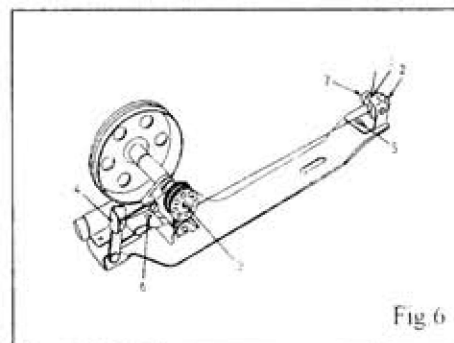

Fig.6
## 5. WINDING (Fig.6)
## 6. WINDING ADJUSTMENT (Fig.6)
2) Adjusting the lift of alternating presser feet: If the height of the lifting presser foot changes, the momentums of the lifting and vibrating presser foot vary, thus the height of the vibrating presser foot must be adjusted. To adjust this, lower the presser bar lifter, holding the vibrating presser foot B (Fig. 6) and loosen the hexagon screw 3 and move the presser foot up or down as may be required. After setting the position, tighten the screw.